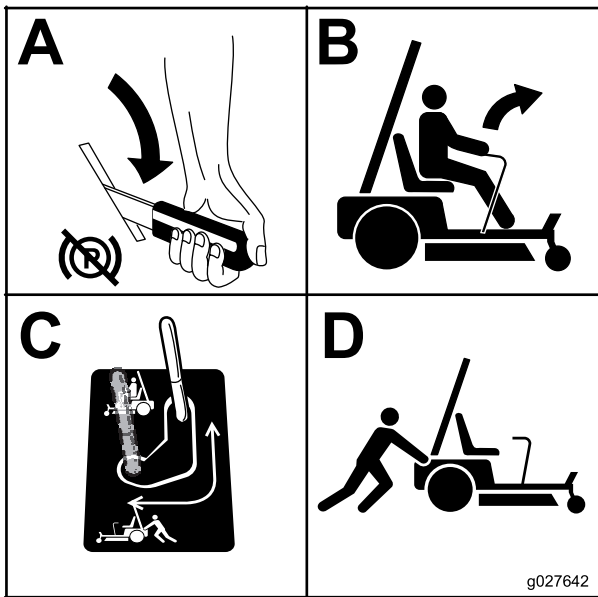

Figure 27
- Do this procedure on each side of the machine Figure 27.
4. Move the bypass to the position for operating the machine (Figure 27) to engage the wheel motors.